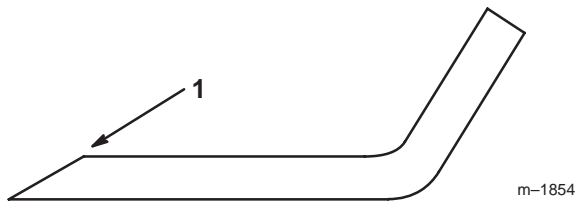

Figure 42
1. Use a file to sharpen the cutting edge at both ends of the blade (Fig. 42). Maintain the original angle. The blade retains its balance if the same amount of material is removed from both cutting edges.